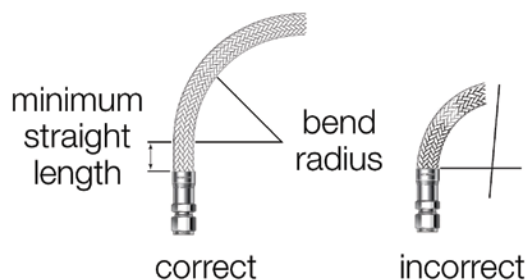

FIGURE 3. Exceeding a hose's recommended bend radius can produce undue strain and even result in premature failure
- Bending the hose beyond its recommended radius (Figure 3)